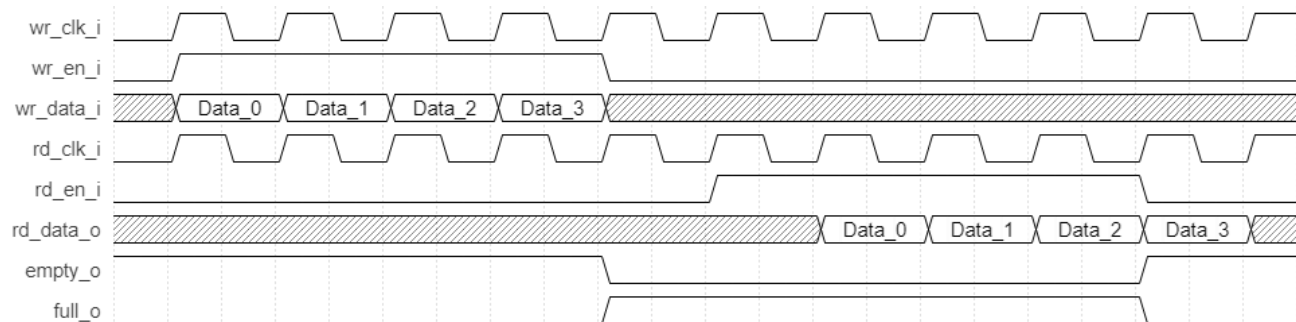
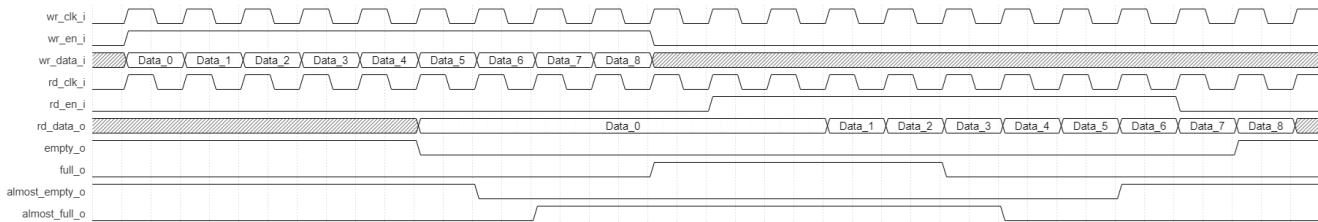
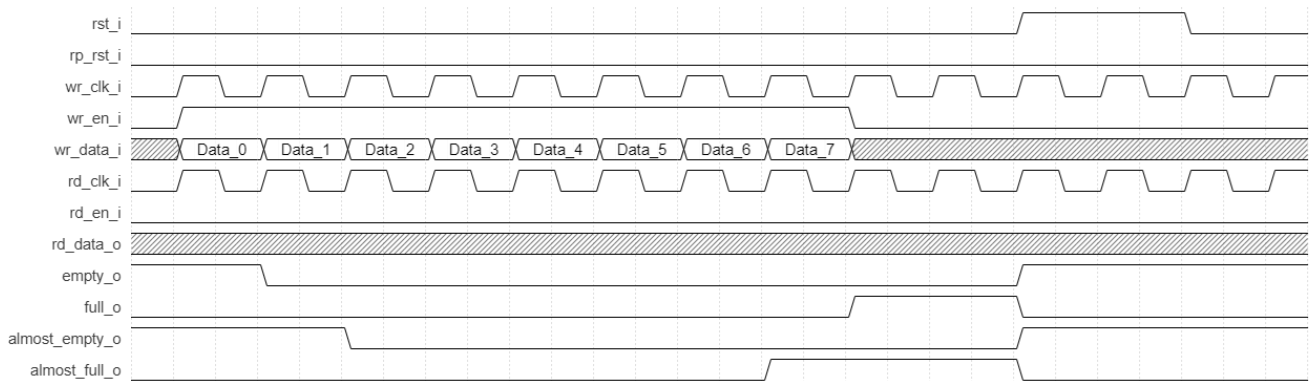
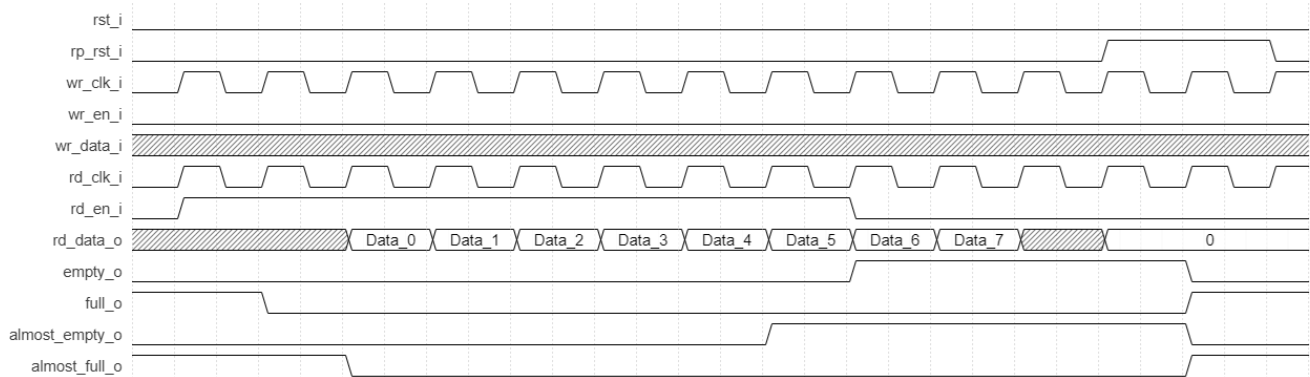

Figure 2.6. FIFO Dual Clock Memory Timing Diagram, Without Registers
Figure 2.10. FIFO Dual Clock Memory First-Word Fall-Through Mode Timing Diagram (Output Registers Enabled)
Figure 2.17. `rst_i` Behavior in Area-Optimized (HW) Timing Diagram (Avant Devices)
Figure 2.22. `rp_rst_i` Behavior in Feature-Rich (LUT) Controller Timing Diagram
Timing diagrams for FIFO Dual Clock Memory are shown in Figure 2.6 through Figure 2.22 for different FIFO_DC configurations depending on the device family being used:
- Figure 2.6 to Figure 2.10 show the different FIFO_DC behaviors when the FIFO Controller being used is LUT-based (Feature-Rich), for both Nexus and Avant devices.
- Figure 2.17 to Figure 2.22 show the expected reset usage and behavior of the FIFO flags and data output (the configuration shows synchronous reset behavior).
The reset behavior of different FIFO items is described in Table 2.6 for both LUT- and HW-based implementations. The timing waveforms for the flags and read data are shown in Figure 2.17 to Figure 2.22. Configuration used are WADDR_DEPTH = 8, RADDR_DEPTH = 8, with output register enabled.